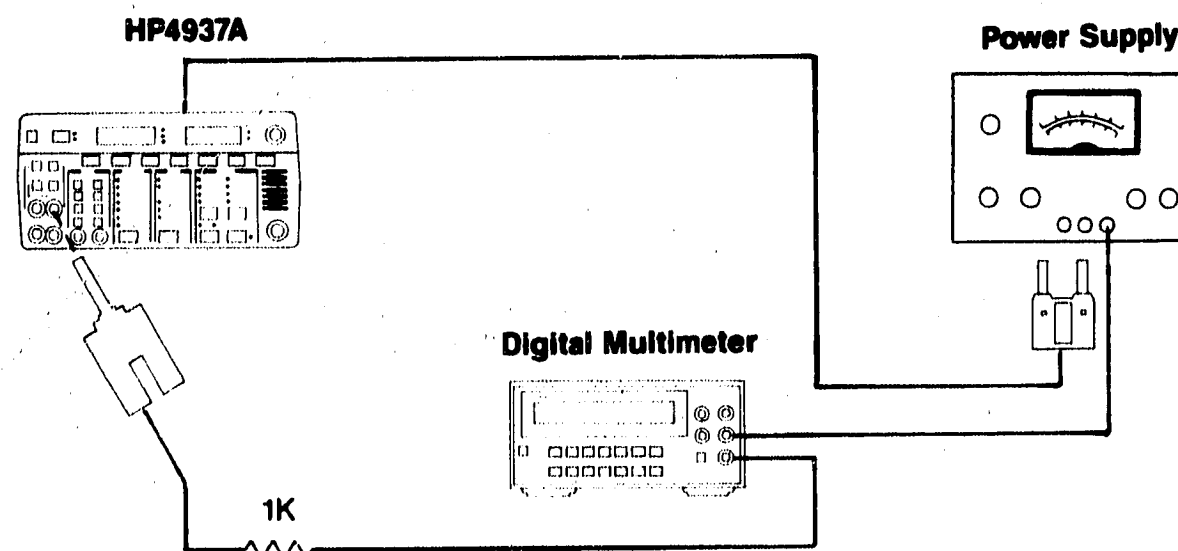

Figure 4-18B. Ground Start
9. Connect the equipment as shown in Figure 4-18B. (The ground connection of the HP 4937A is on the rear panel.)